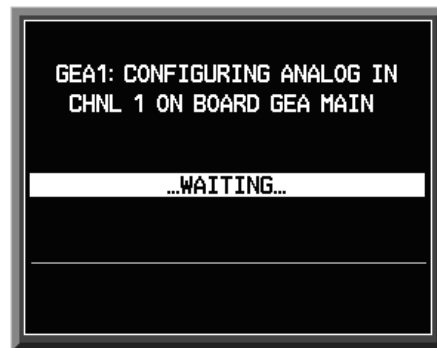

Figure 5-23. Configuration Verification Processing
9. The system will now re-verify the GEA configuration (this may take several minutes). During this time the box shown in Figure 5-23 is displayed. ***Do not perform any actions until this is complete.***